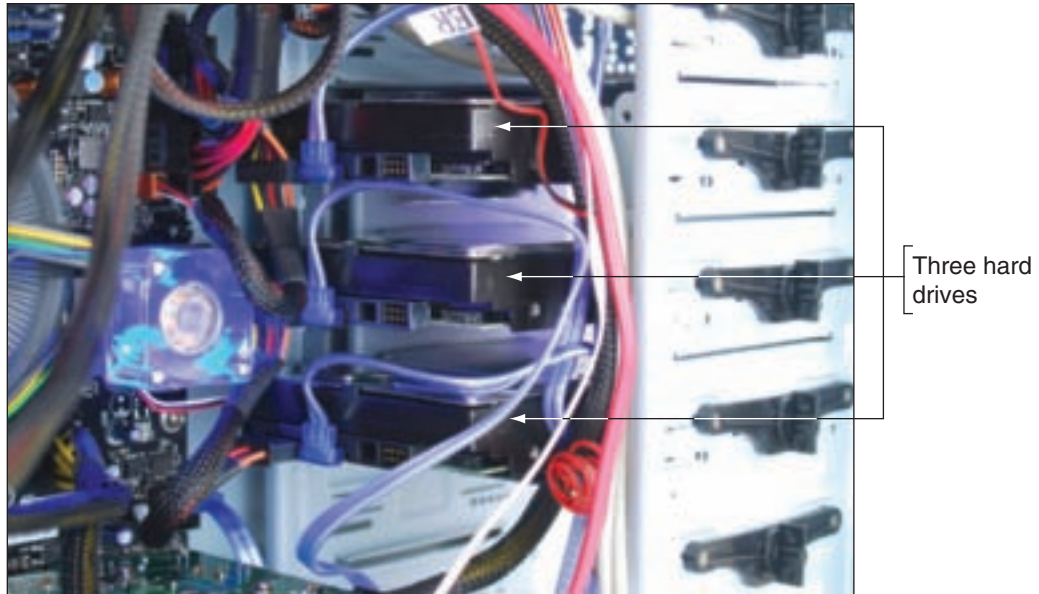

Figure 8-49 Install three matching hard drives in a system
1. Install the three SATA drives in the computer case and connect each drive to a SATA connector on the motherboard (see Figure 8-49). To help keep the drives cool, the drives are installed with an empty bay between each drive.